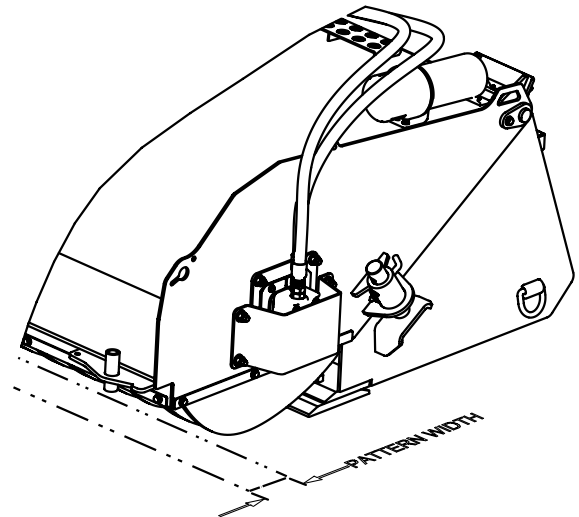

Figure 3
8. Move the two stop pins to a different hole location and replace the two bent pins. To widen the pattern move the stop pins up; to narrow the pattern move the stop pins down. See Figure 3.